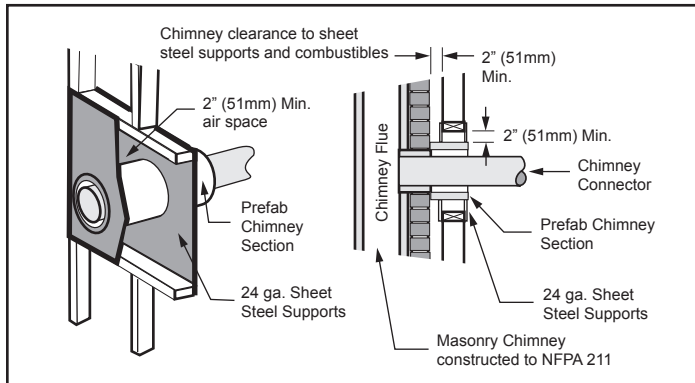

Figure 5.8 - Wall Pass-through with ventilated steel thimble.
- Placing a chimney connector pipe inside a section of 9" (229 mm) diameter, solid-insulated, factory-built chimney, with two inches of air space between the chimney section and combustibles. (Figure 5.8)